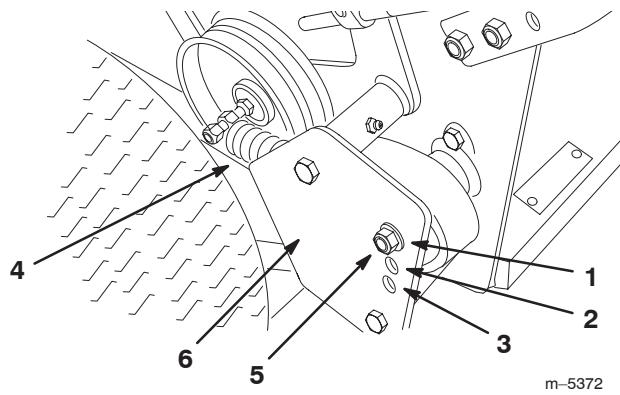

Figure 18
4. Remove the drive spring from the adjustment bolt (Fig. 18).
5. Remove the locknut that secures the adjustment bolt to the drive pulley shield (Fig. 18).
Note: The wheel drive tension is lowest when the bolt assembly is in Position A. The tension increases in Positions B and C (Fig. 18).